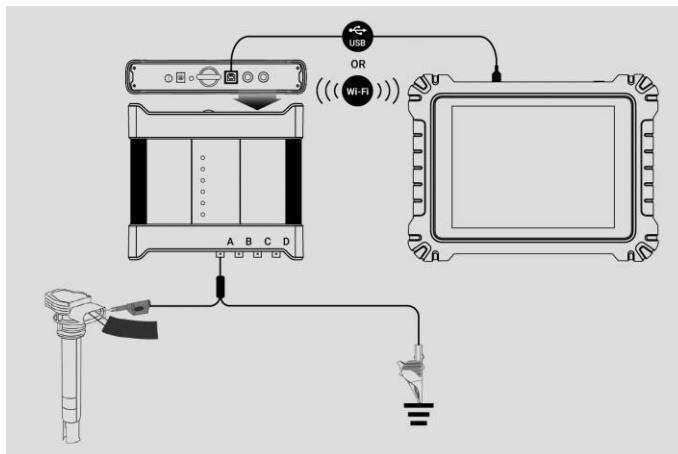

Figure 1-1 Sample Connection Diagram
1. Insert the applicable test lead or probe terminal ends into the input channel(s) to complete the connection (refer to **Figure 1-1**).